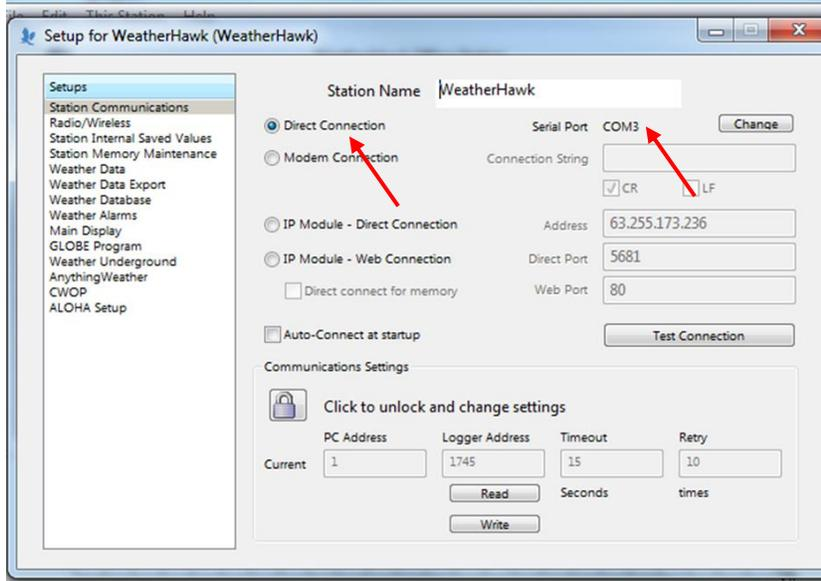

Figure 5: Select the correct Serial Port that is being used to communicate with the WeatherHawk.
2. Select *Direct Connection* from the setup screen and select the *Serial Port* on your computer which the serial cable is connected to. (Figure 5). If necessary, click the *Change* button next to the *Serial Port* to select a different port.